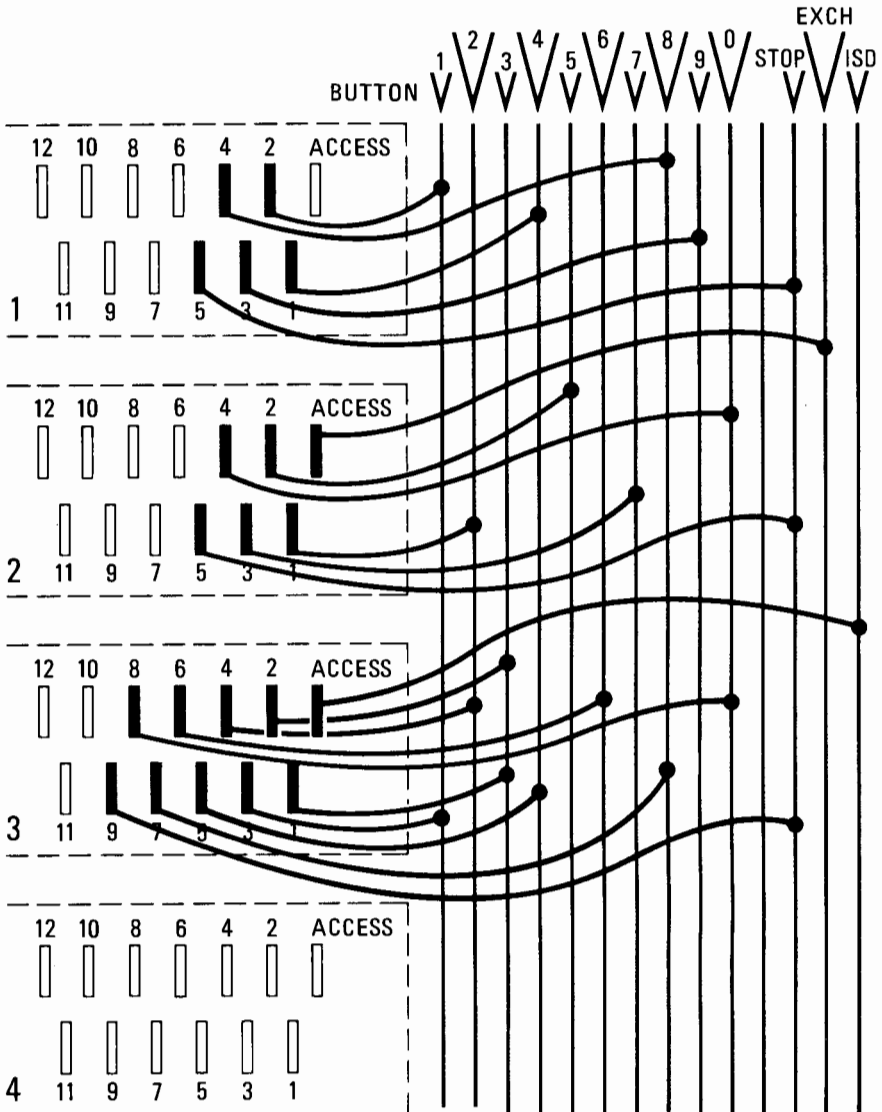

Fig.7
See fig. 7 opposite. **Button 1** shows a PABX extn or DEL Autodial, connected to Address 4198 i.e. PABX Extn 4198 or own Exchange 4198.
**PABX Extensions.** If the Callmaker is connected to a PABX extension and the call being set up is to be via the public exchange, the 'Access' tag is connected to the bar marked 'EXCH', this provides the digit which is dialled for the public exchange. **Button 2** fig. 7 shows an example of a PABX Extn connected to Address 9.2570.
**International Calls** the 'Access' tag is connected to the 'ISD' bar. This provides the code '010' - or, in the case of PABX extensions, the public exchange code followed by '010'. **Button 3** fig. 7 shows an International Address Paris 24680 i.e. 010.33.1.24680.